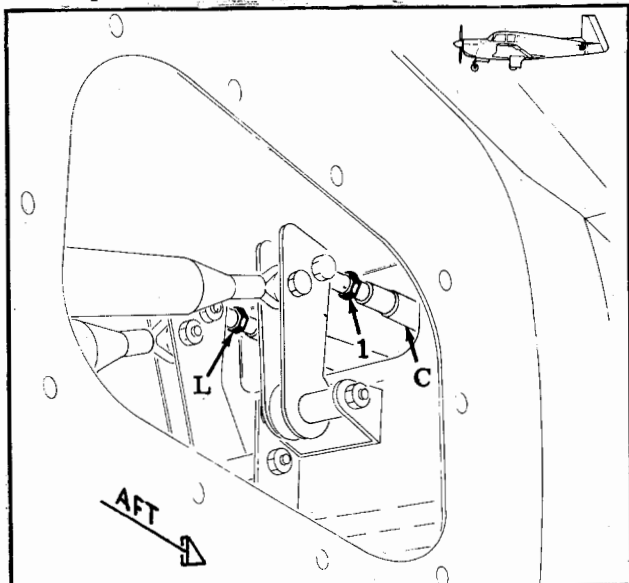
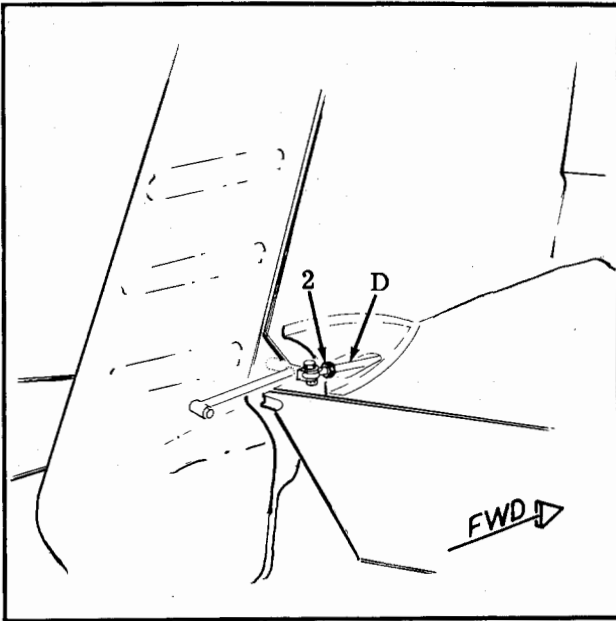

Figure 6-10. Rudder & Elevator Travel Adjustment
Figure 6-11. Rudder Horn Adjustment
f. Adjust control tube (C) at rear tail cone bulkhead bellcrank, Figure 6-10, and set rudder by adjusting control tube (D), Figure 6-11, at rod end bearing (2) 1° to the right.